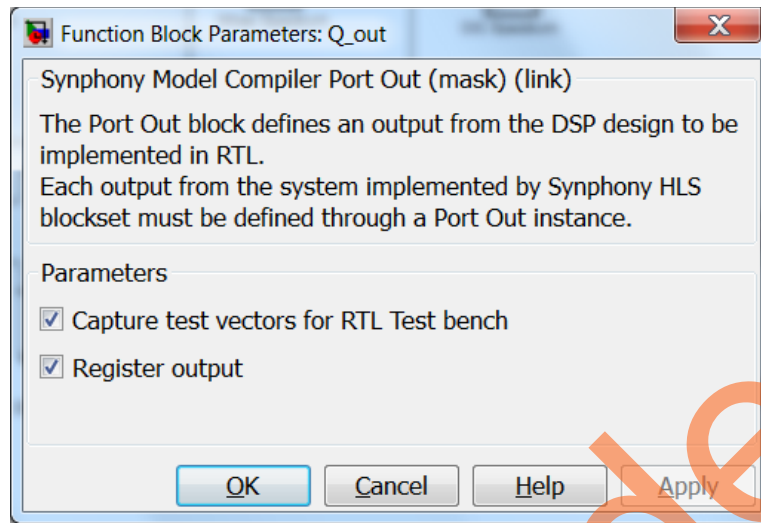

Figure 3. Setting the Output Port Q_out
5. Click **Q_out**, and on the **Function Block Parameters** dialog box select the **Capture test vectors for RTL Test bench** and **Register output** check boxes, as shown in Figure 3.